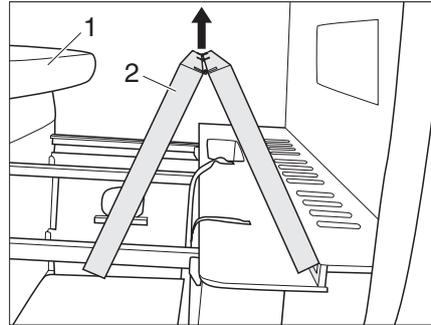

Fig. 50 Fold slatted frame
- ▶ Place mattress (Fig. 50,1) on the left side of the vehicle.
- ▶ Lift and fold the slatted frame (Fig. 50,2) .